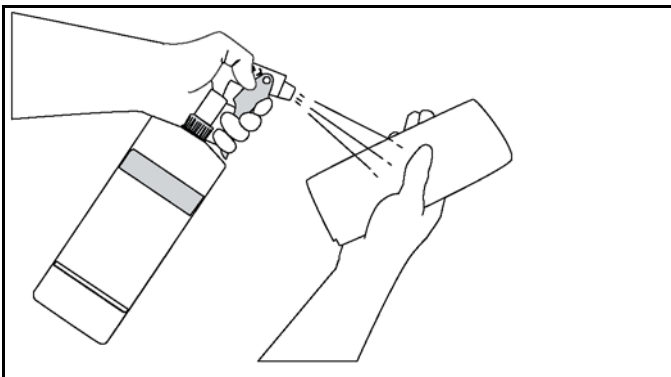

Figure-147
14. Spray a clean, sanitizer-soaked grill cloth once with grill cleaner. Wipe the soiled side of the release sheet until clean. See Figure-147.